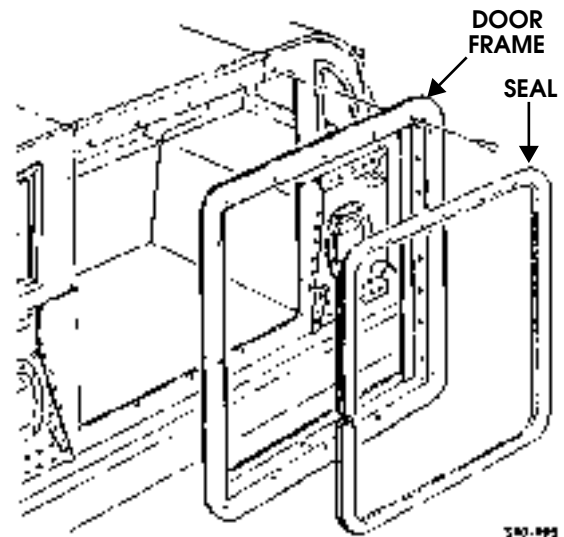

Figure 10-152: Door Frame and Seal Replacement
9. Remove fourteen screws from door frame (Figure 10-152).
1. Position seal on door frame (Figure 10-152).